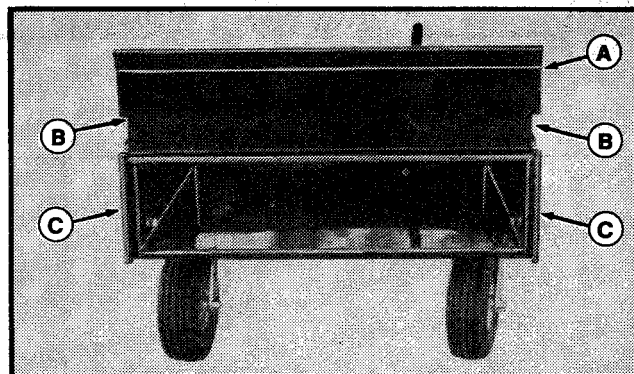

Figure 8
2. Lift the tailgate (A, figure 8) up so that the slots (B) on the tailgate are just above the track (C). Swing the tailgate (D, figure 9) down for unloading.
4. Move the latch handle (E) to the unlock position and dump the cart's box using the lift handle.